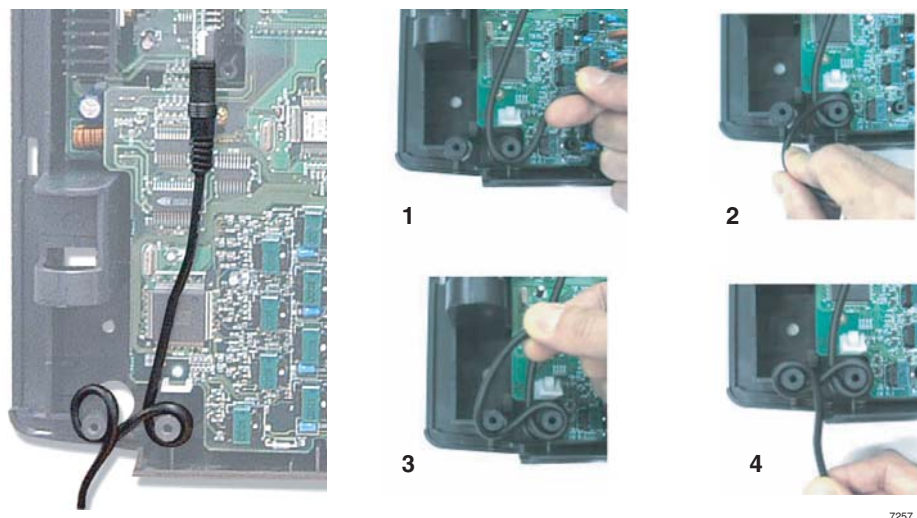

Figure 1-9 AC Adapter Wiring Procedure
1. Refer to Figure 1-9 for the following steps. Loosen the screw on the Amphenol clamp and remove the clamp. Plug in the 25-pair Amphenol connector and replace the clamp to hold the Amphenol connector in place.
3. Connect the end of the AC adapter cable to the GMAS PCB as shown in Figures 1-9 and 1-4.